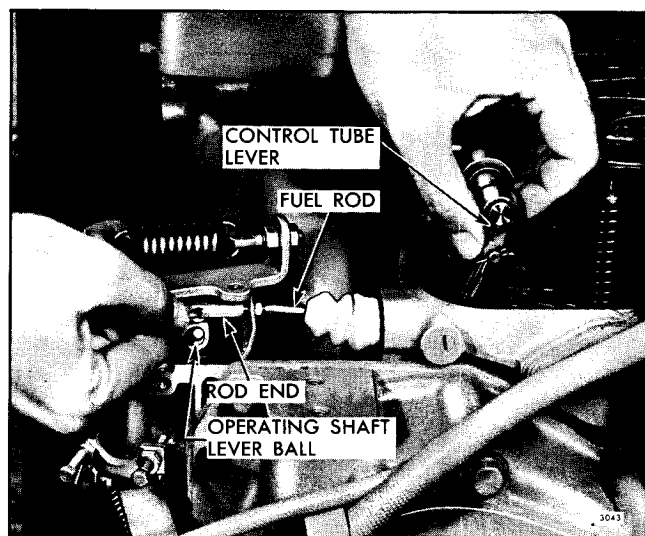

Fig. 4 - Adjusting Fuel Rod Length
1. Disconnect the fuel rod ball joint socket, shown in Fig. 4, from the ball of the governor operating shaft lever.
4. Loosen the lock nut, retaining the ball joint socket on the fuel rod. Hold the fuel rod in the Full-Fuel position and adjust the fuel rod socket, see Fig. 4, until it is aligned and will slide onto the ball of the governor operating shaft lever while retaining the governor operating shaft lever ball in the Full-Fuel position. Tighten the fuel rod lock nut, to retain the adjustment, after positioning the shut-down cable clip.